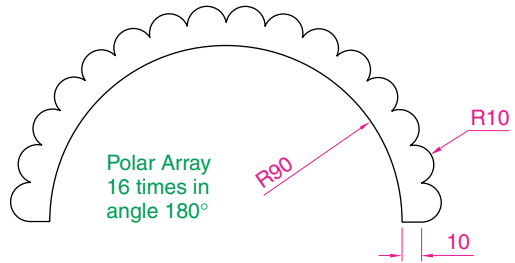

Fig. 5.56 Exercise 10
10. Construct the drawing in Fig. 5.56. All parts of the drawing are plines of width=0.7. The setting in the **Array** dialog is to be **180** in the **Angle of array** field.